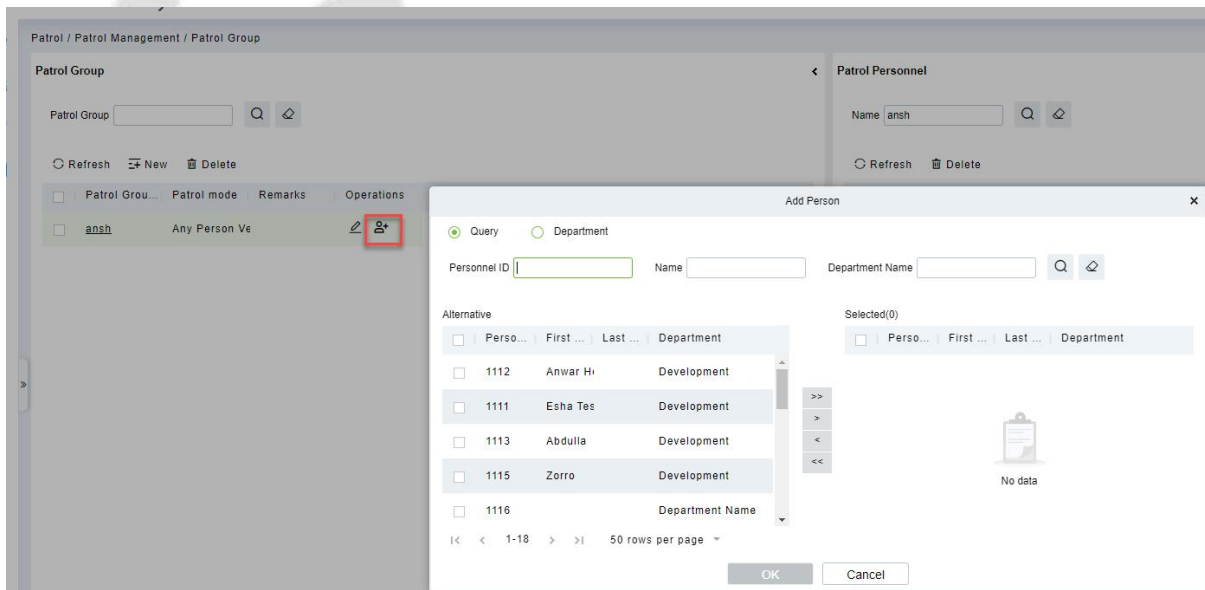

Figure 11-8 Adding Patrol Team Personnel
Step 5: In the **Add Person** window that pops up, configure the person information, as shown in Figure 11-8.